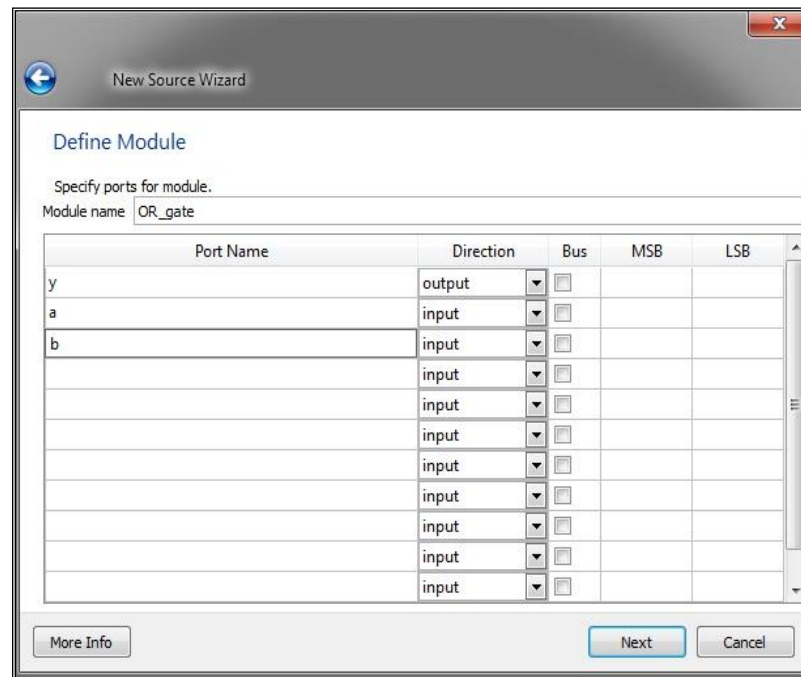

Fig 1.7: Define Module window
8. In the **Define Module** page, enter the port information for the “OR_gate” as follows (Fig 1.7):